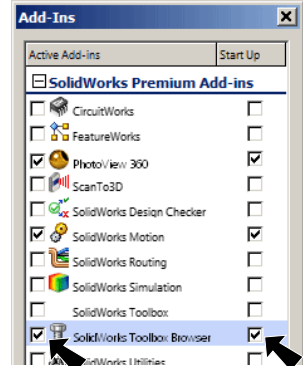

Fig. 1
Step 3. In the dialog box find **SolidWorks Toolbox Browser** and place a check in the check box under **Active Add-Ins** and **Start-Up**. Click OK, **Fig. 1**.